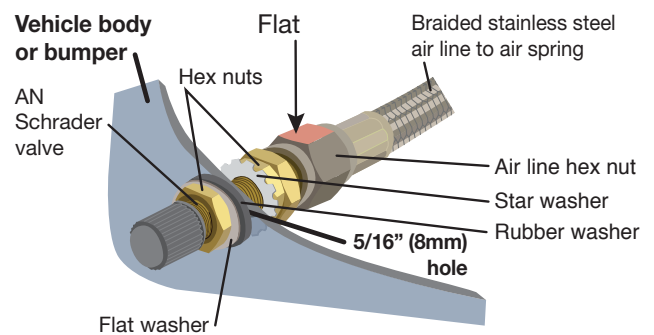
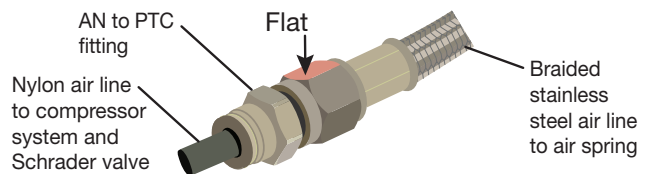

Fig. 26
Fig. 27
2. Tighten the air line hex nut finger-tight, then use 2 wrenches to turn 1 additional flat (1/6 of one full turn). Do not overtighten (Fig. 26 & Fig. 27). The easiest way to tighten the fitting is off the vehicle. Install the Schrader valve in the chosen location.